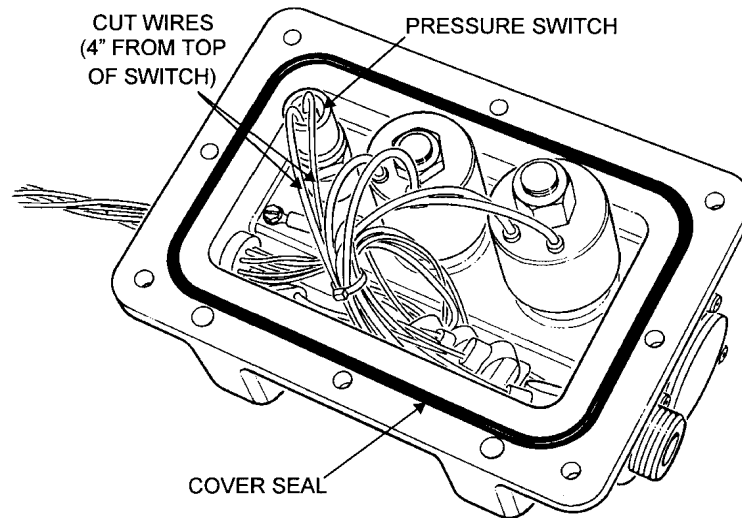

Figure 10. Pressure Switch Wiring
1. Cut the two wires exiting the top of the pressure switch four inches from the top of the switch [Figure 10].